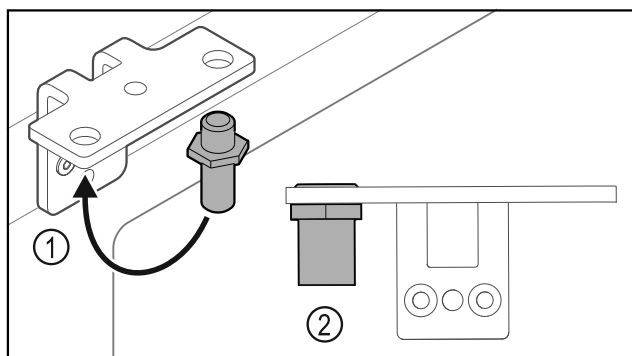

Fig. 36
- ▶ Put the pin back into the hinge Fig. 36 (1).
- ▶ Tighten the pin Fig. 36 (2) to a torque of 12 Nm.